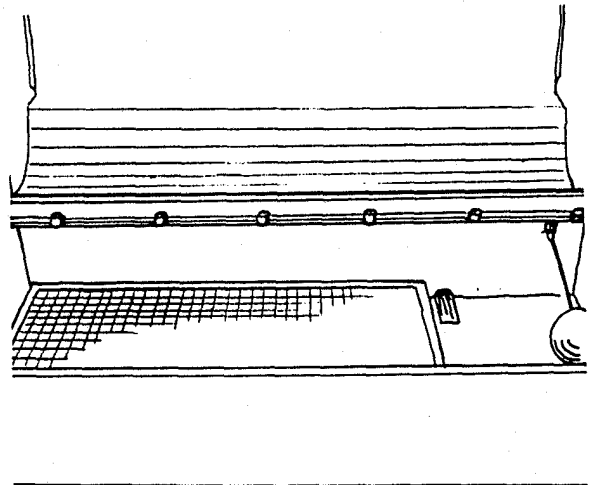

FIGURE 2
**OTHER ASSEMBLY** The water screen is also shipped in the spray chamber. It goes in the bottom of the water tank, covering the pump intake pipe, but not the drain outlet as shown in figure 2.